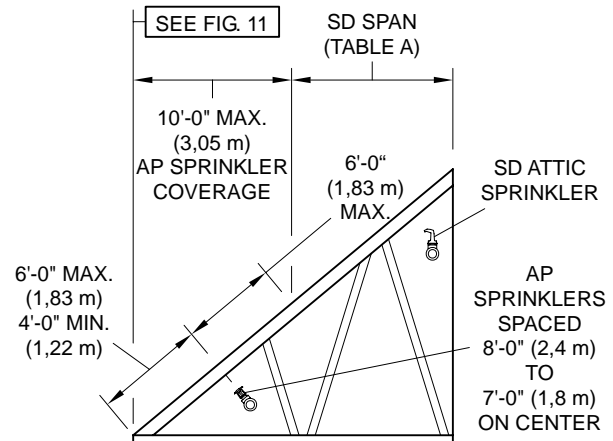

FIGURE 14B — SD w/ AP SPRINKLERS
B. Where SD Sprinklers are used (Ref. Figure 14B), AP Sprinklers can be used to protect up to 10 feet (3,1 m) of width at the eaves beyond the maximum allowable 40 foot (12,2 m), 30 foot (9,1 m), or 10 foot (3,0 m) spans of the SD Sprinklers (Ref. Table A).